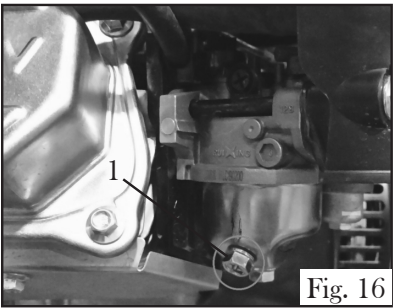

Fig. 16
2. Loosen drain screw from carburetor (Fig. 16 - 1). Be sure to have a vessel prepared to catch the fuel that will flow out.